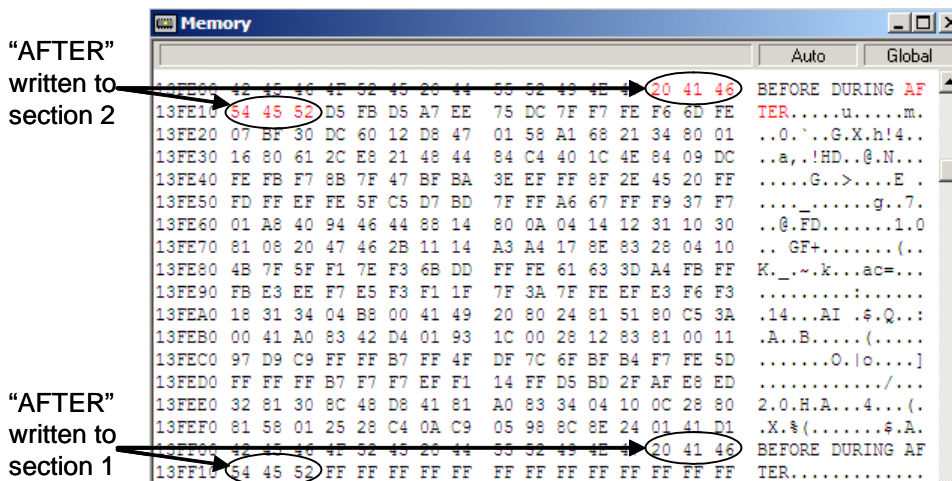

Figure 11. Results of Executing Step 9
9. Write the last string (“AFTER”) to the EEE RAM and buffer RAM. Observe the string in the debugger. The memory window should resemble Figure 11.